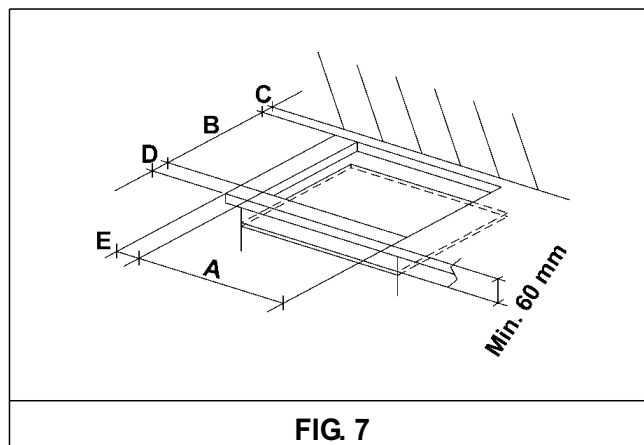

FIG. 7
The measurements of the opening made in the top of the modular cabinet and into which the hot plate will be installed are indicated in fig. 7.
Always comply with the measurements given for the hole into which the appliance will be recessed (see fig. 7).
- When the appliance is installed so that the base can be touched, we recommend fitting a protecting shield. This shield must be at least 60 mm below the base of the bench top (fig. 7). Timber or other suitable material may be used provided it is capable of withstanding the appliance temperatures. Ensure that the supply connection point is accessible with the appliance installed. To facilitate the shield may need to be removable.